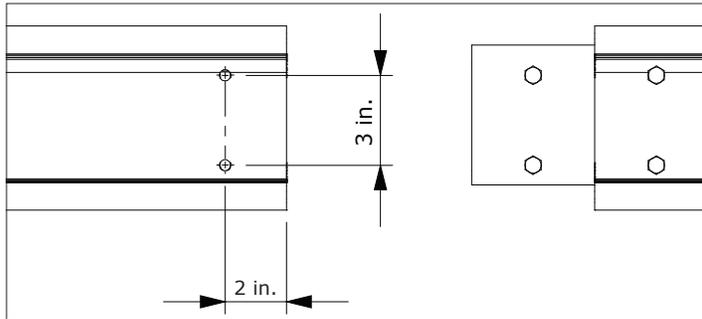

Fig. 4.4.2 Measuring the holes for splicing the rail (side of the rail).
- Drill 2 Ø 0.42 in. on each side of the rail, 2 in. (50 mm) from the top and bottom of the rail and 3 in. (75 mm) apart (refer to fig. 4.4.2.)